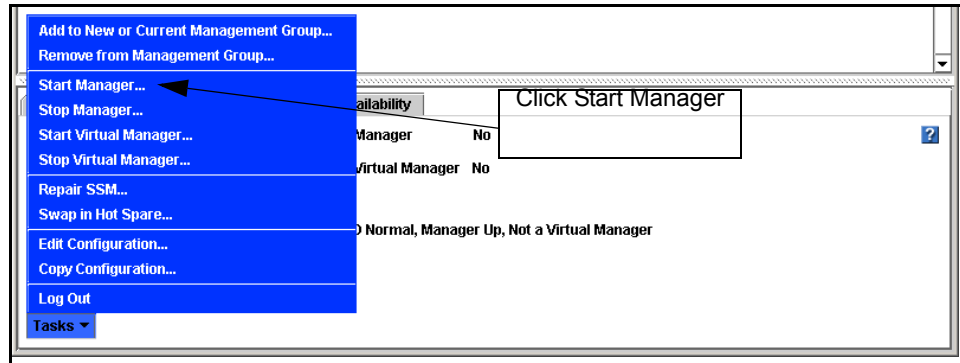

Figure 137. Starting a Manager
2. On the Management Group Information tab, select the Tasks menu and click Start Manager, as shown in Figure 137.